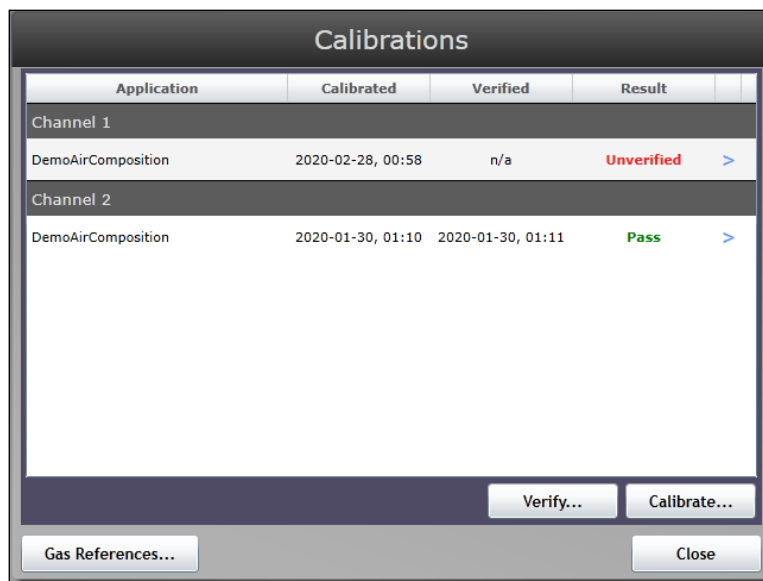

Figure 93. Calibration updated and verification required
6. When the calibration is complete, the Calibrations screen (Figure 93) appears showing the results of the calibration. The Result state of a newly calibrated channel is 'Unverified', as shown in the Result column in Figure 93. The new calibration needs to be verified to complete the process. Follow the steps outlined in *To verify a channel* in Section 8.7.2 to verify the channel.